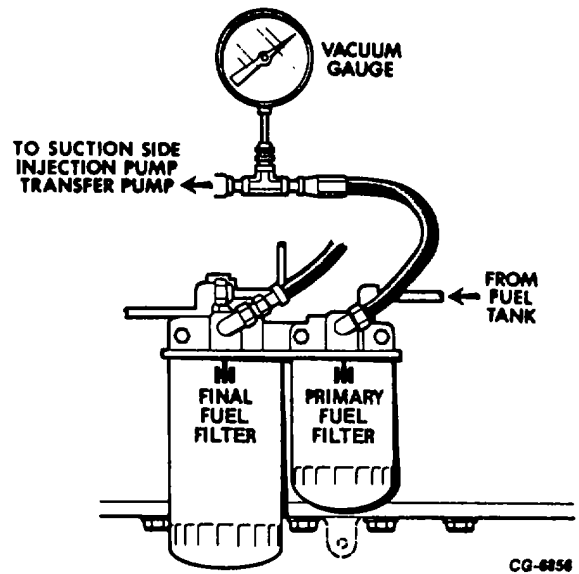

Figure 19. Fuel Inlet Restriction Test
1. Connect a tee fitting at the outlet of the primary fuel filter and connect the line to a vacuum gauge (Figure 19).